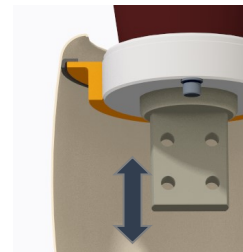

Fig. 17
- Removable shield (fig. 17): it can be simply unscrewed upwards (clockwise) or completely unscrewed downwards (counter clockwise) after having removed the two locking screws.